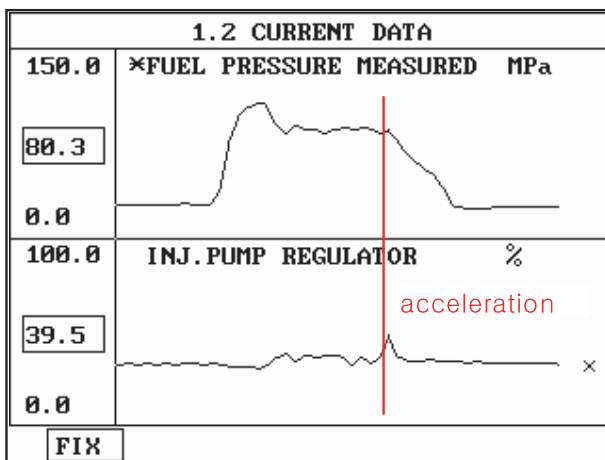

Fig.3
- Fig.3) Fuel pressure and Rail pressure regulator valve data at idle.